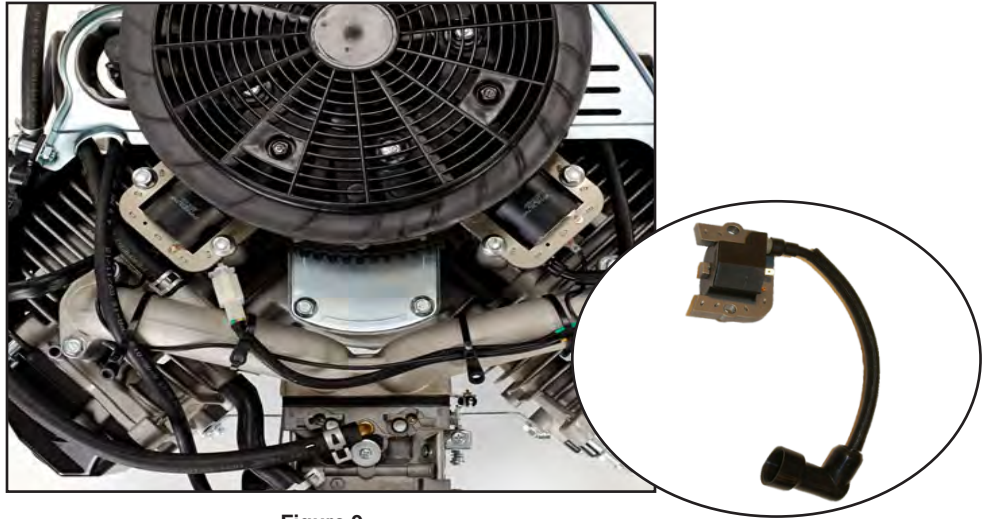

Figure 9
3. Remove the ignition coils (Figure 9).